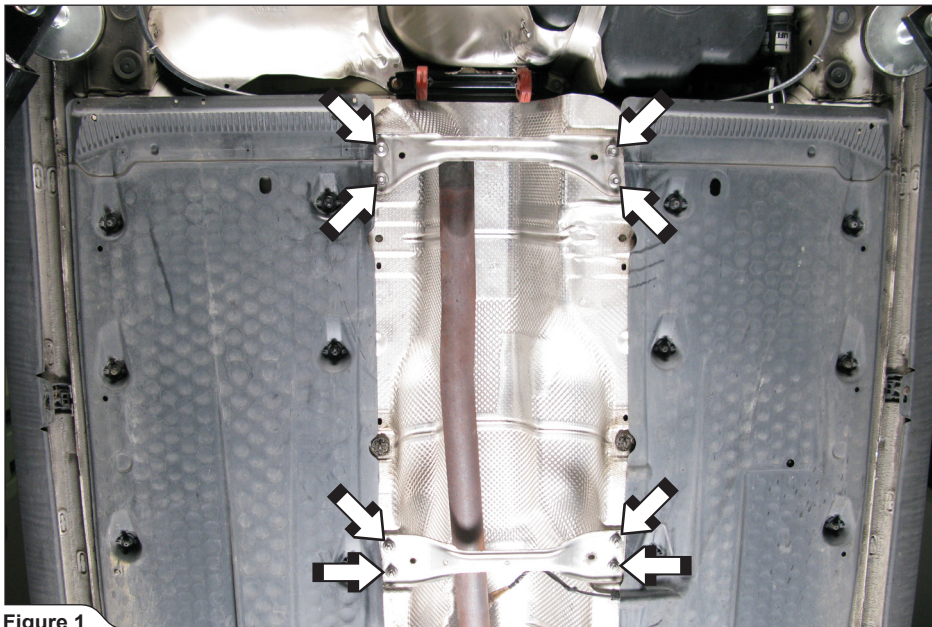

Figure 1
1. Unscrew the marked nuts and remove the two chassis reinforcements (**Figure 1**).